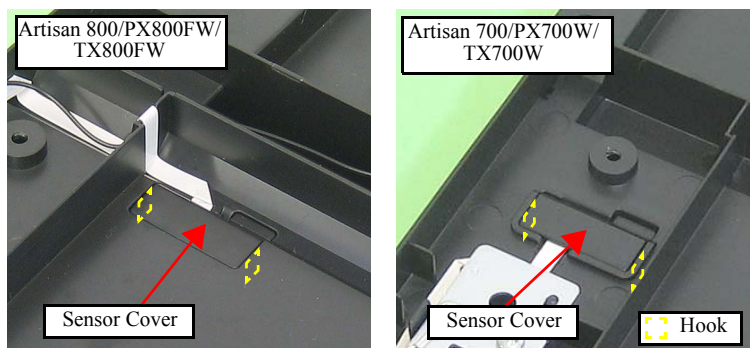

Figure 4-174. Removing the Cover Open Sensor (1)
- When attaching the Cover Open Sensor, insert it into the space inside the ribs (x2) □ of the Scanner Lower Housing as shown in Fig. 4-174.